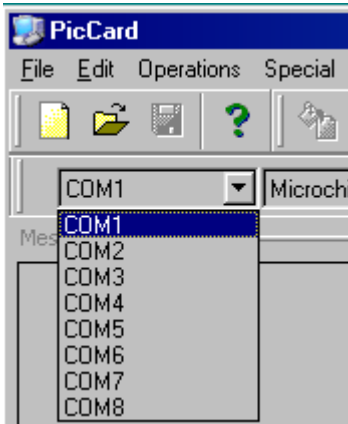

Figure 1
1. Select the COM port for the programmer from the main window of the programmer software (Fig. 1). The Communications Port Setup will be done by the PCARD-1 software automatically.